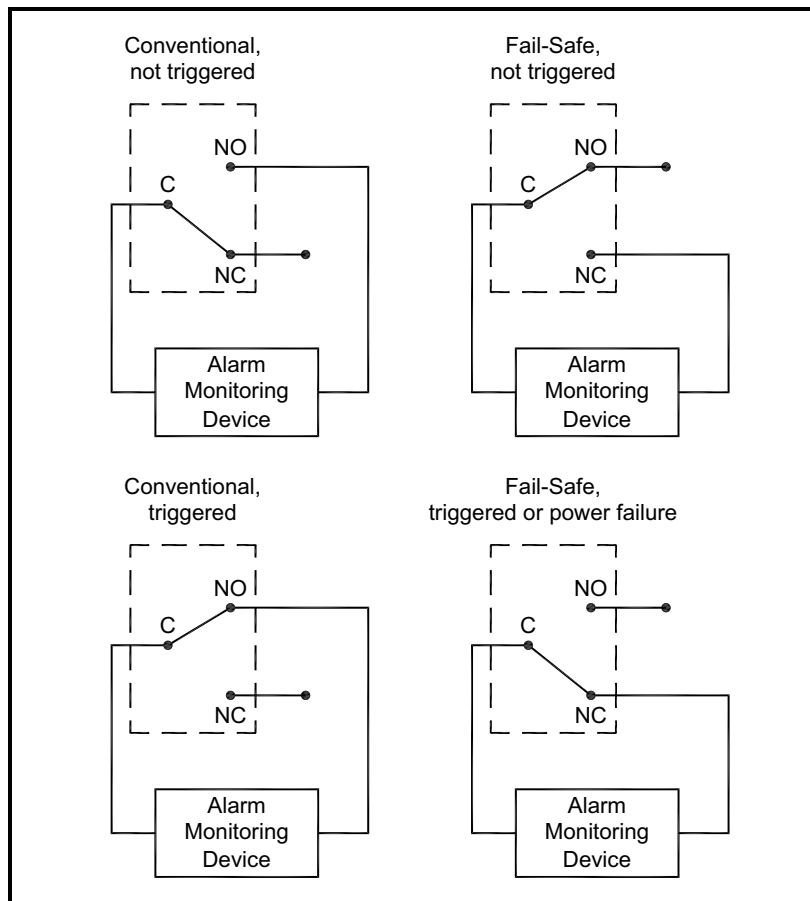
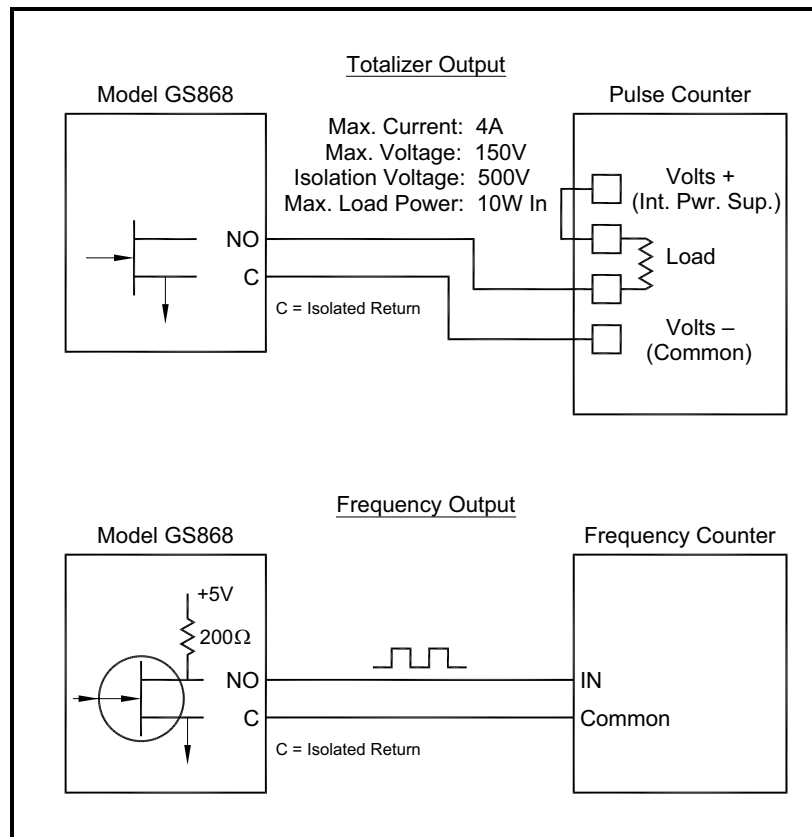
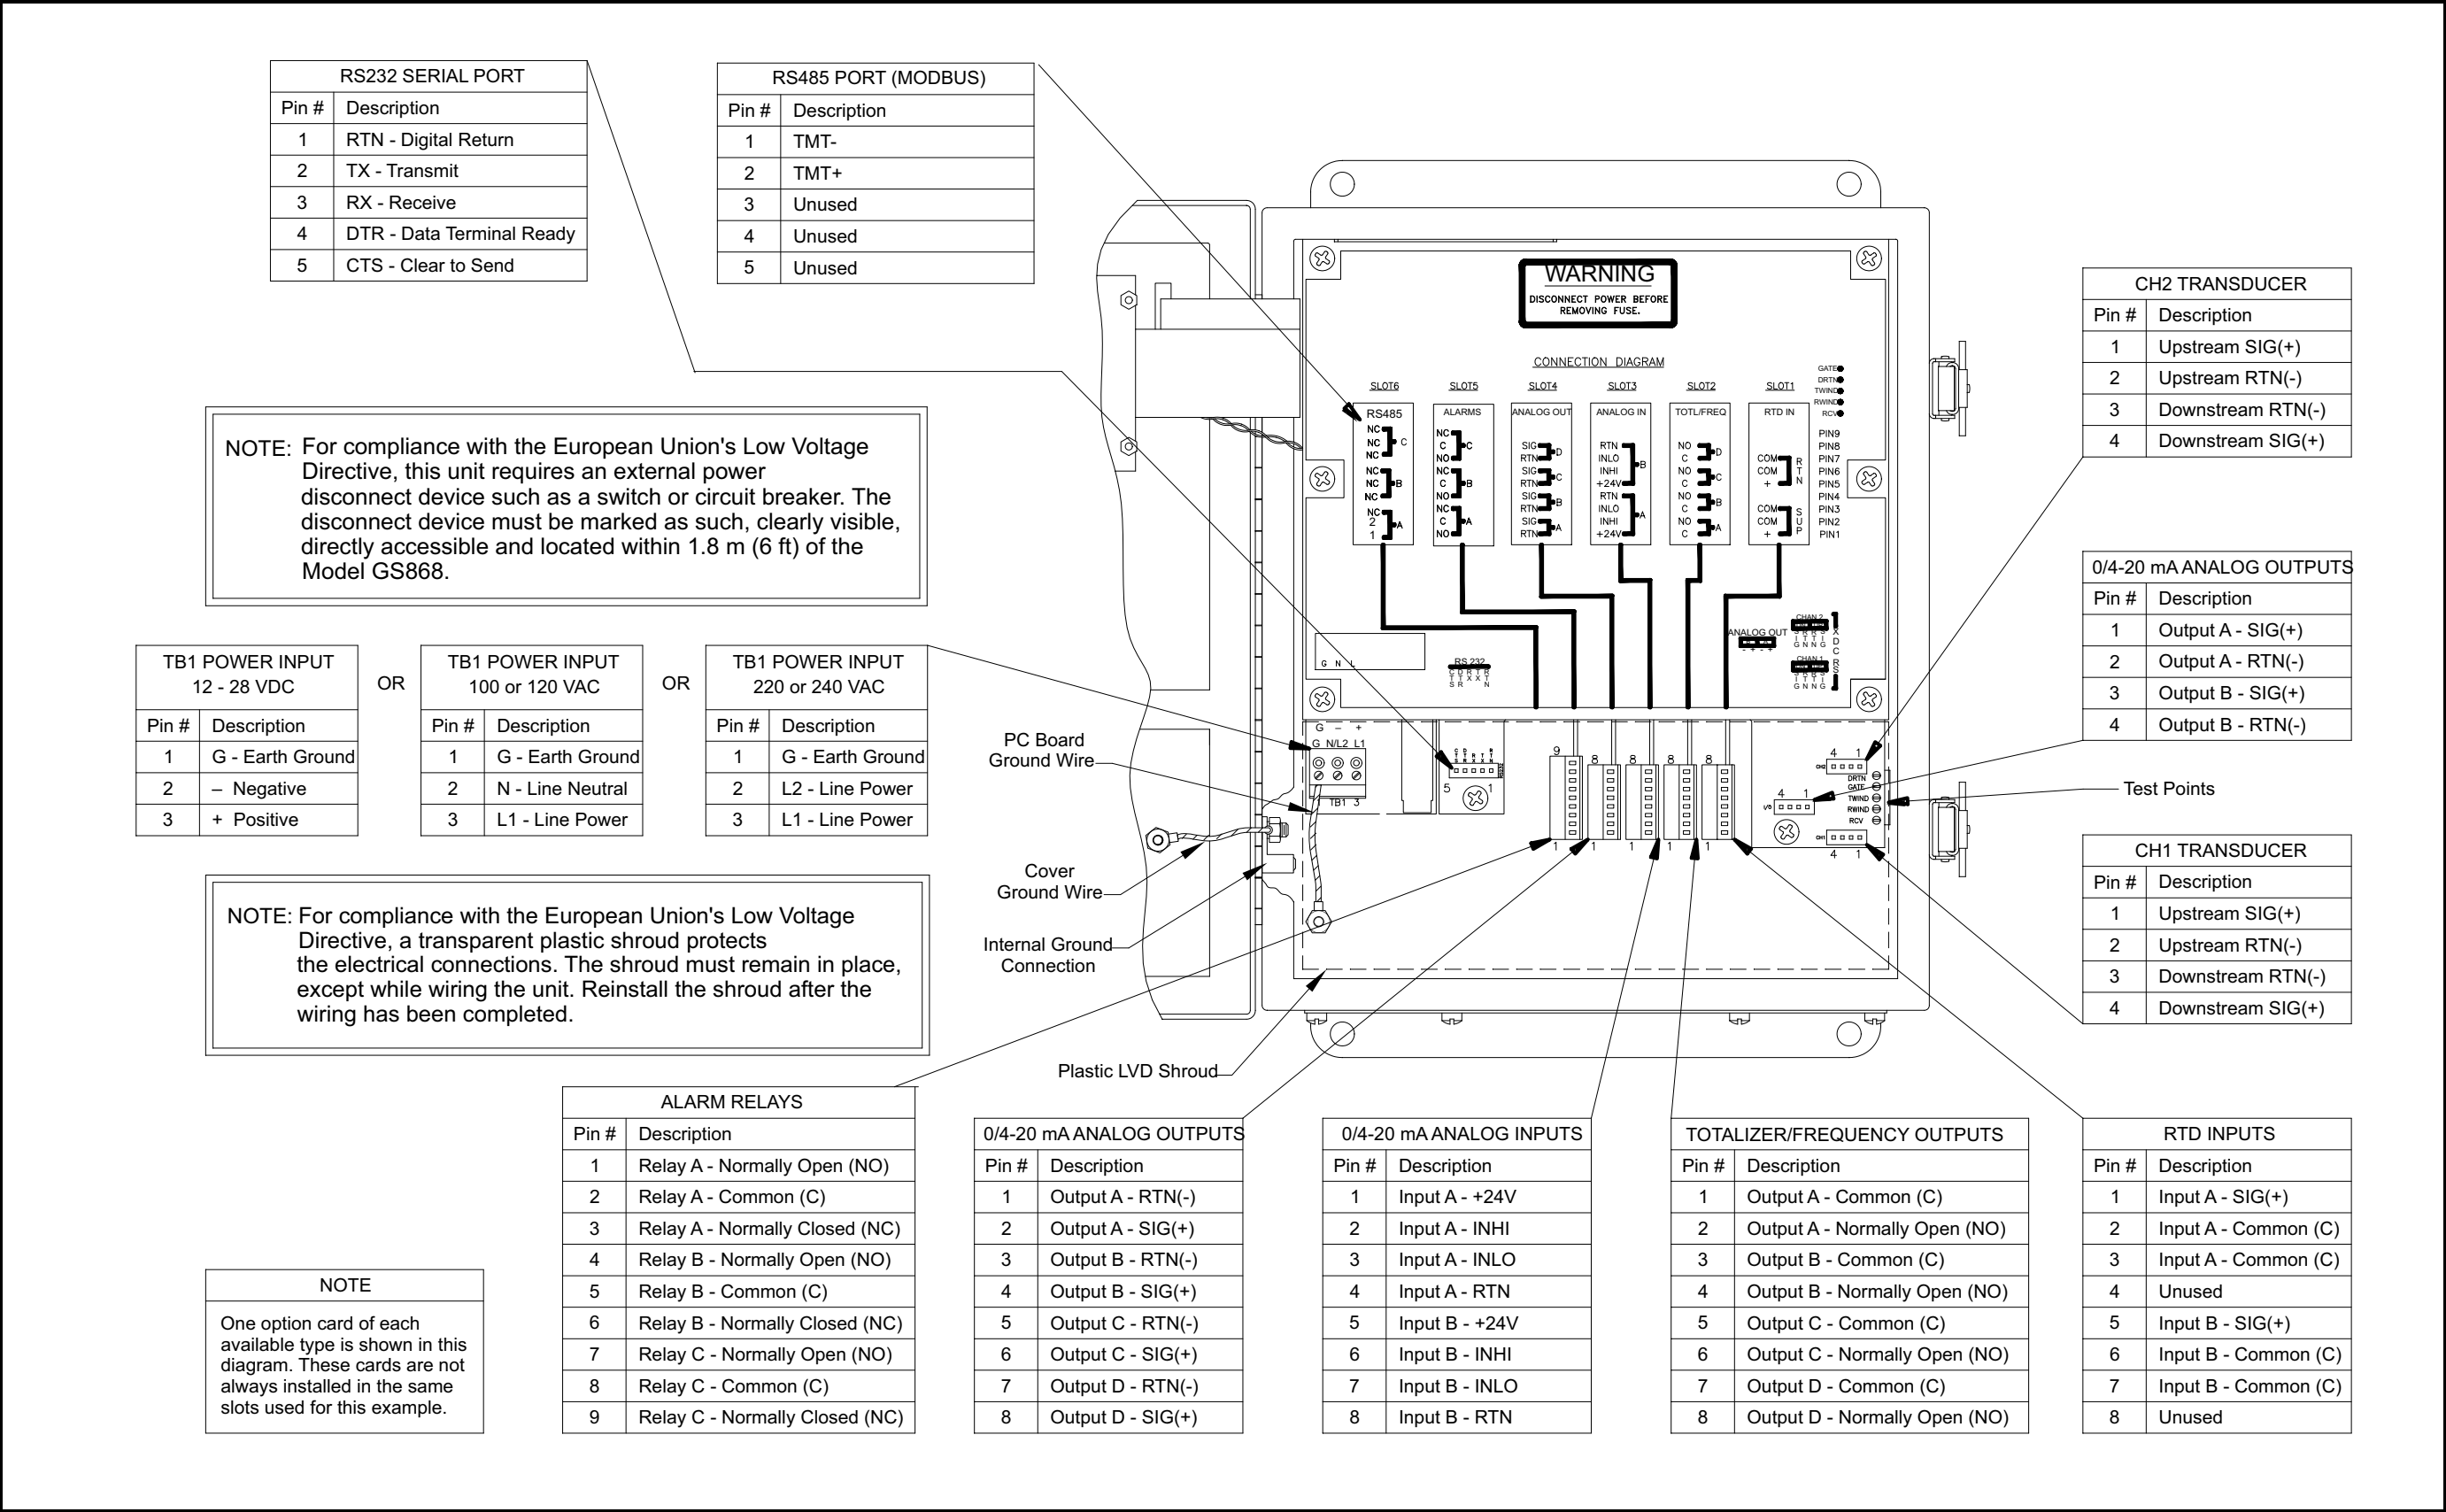

Figure 6: Conventional and Fail-Safe Operation
Figure 8: Totalizer/Frequency Outputs Wiring
Figure 10: Model GS868 Electronics Console Wiring (ref. dwg #702-213, sht 1 of 2)
3. Using the pair of coaxial cables with BNC to flying lead connectors supplied by the factory (or equivalent cables), connect the preamplifier to terminal block **CH1** in the electronics console. Refer to Figure 10 on page 18 for the location of the terminal block and the terminal block pin assignments.
Refer to Figure 10 on page 18 for the location of terminal block **I/O** and wire the terminal block as shown.
The RS232 serial interface is wired as Data Terminal Equipment (DTE), and the signals available at the Model GS868 **RS232** terminal block are shown in Table 1 below. Refer to Figure 8 on page 14 to locate terminal block **RS232** and complete the following steps to wire the terminal:
To wire the RS485 serial port, refer to Figure 10 on page 18 and complete the following steps:
In setting up an alarm relay, it may be wired for either *conventional* or *fail-safe* operation. In fail-safe mode, the alarm relay is constantly energized, except when it is triggered or a power failure or other interruption occurs. See Figure 6 below for the operation of a NO alarm relay in both conventional and fail-safe mode.
Connect the two wires required for each alarm relay in accordance with the pin number assignments shown in Figure 10 on page 18.
Wire the analog input terminal block in accordance with the pin number assignments shown in Figure 10 on page 18. The standard Model GS868 has at least one analog inputs option card, which is used to supply the live pressure reading required for accurate mass flow calculations. These option cards are identical to the temperature/pressure card described above and they should be wired in the same manner (see Figure 6 on page 12).
Each totalizer/frequency output requires two wires. Wire this terminal block in accordance with the pin number assignments shown in Figure 10 on page 18. Figure 8 below shows sample wiring diagrams of a totalizer output circuit and a frequency output circuit.
The standard Model GS868 has at least one RTD inputs option card, which is used to supply the live temperature reading required for accurate mass flow calculations. Each RTD input requires three wires, which should be fed through one of the conduit holes on the bottom of the electronic console. Wire this terminal block in accordance with the pin number assignments shown in Figure 10 on page 18.
Connections to these outputs may be made with standard twisted-pair wiring. The total current loop impedance for these circuits must not exceed 1000 ohms. Wire this terminal block in accordance with the pin number assignments shown in Figure 10 on page 18.